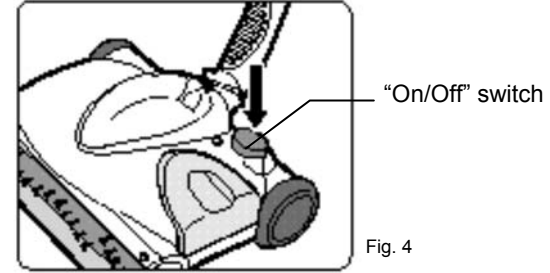

Fig. 4
2. Push the On/Off switch to operate the unit. To turn off, press switch again. (Fig.4)